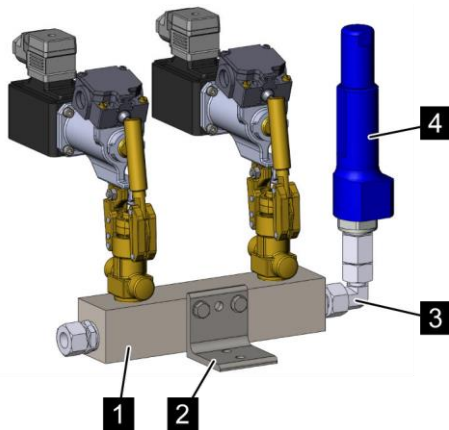

Fig. 108: Mounting the distributor block
1. ➔ Screw the holder (Fig. 108/2) on the distributor block (Fig. 108/1).
3. ➔ Mount a short connecting piece (Fig. 108/3) on the end of the valve block so that the safety valve (Fig. 108/4) can be mounted vertically upward.